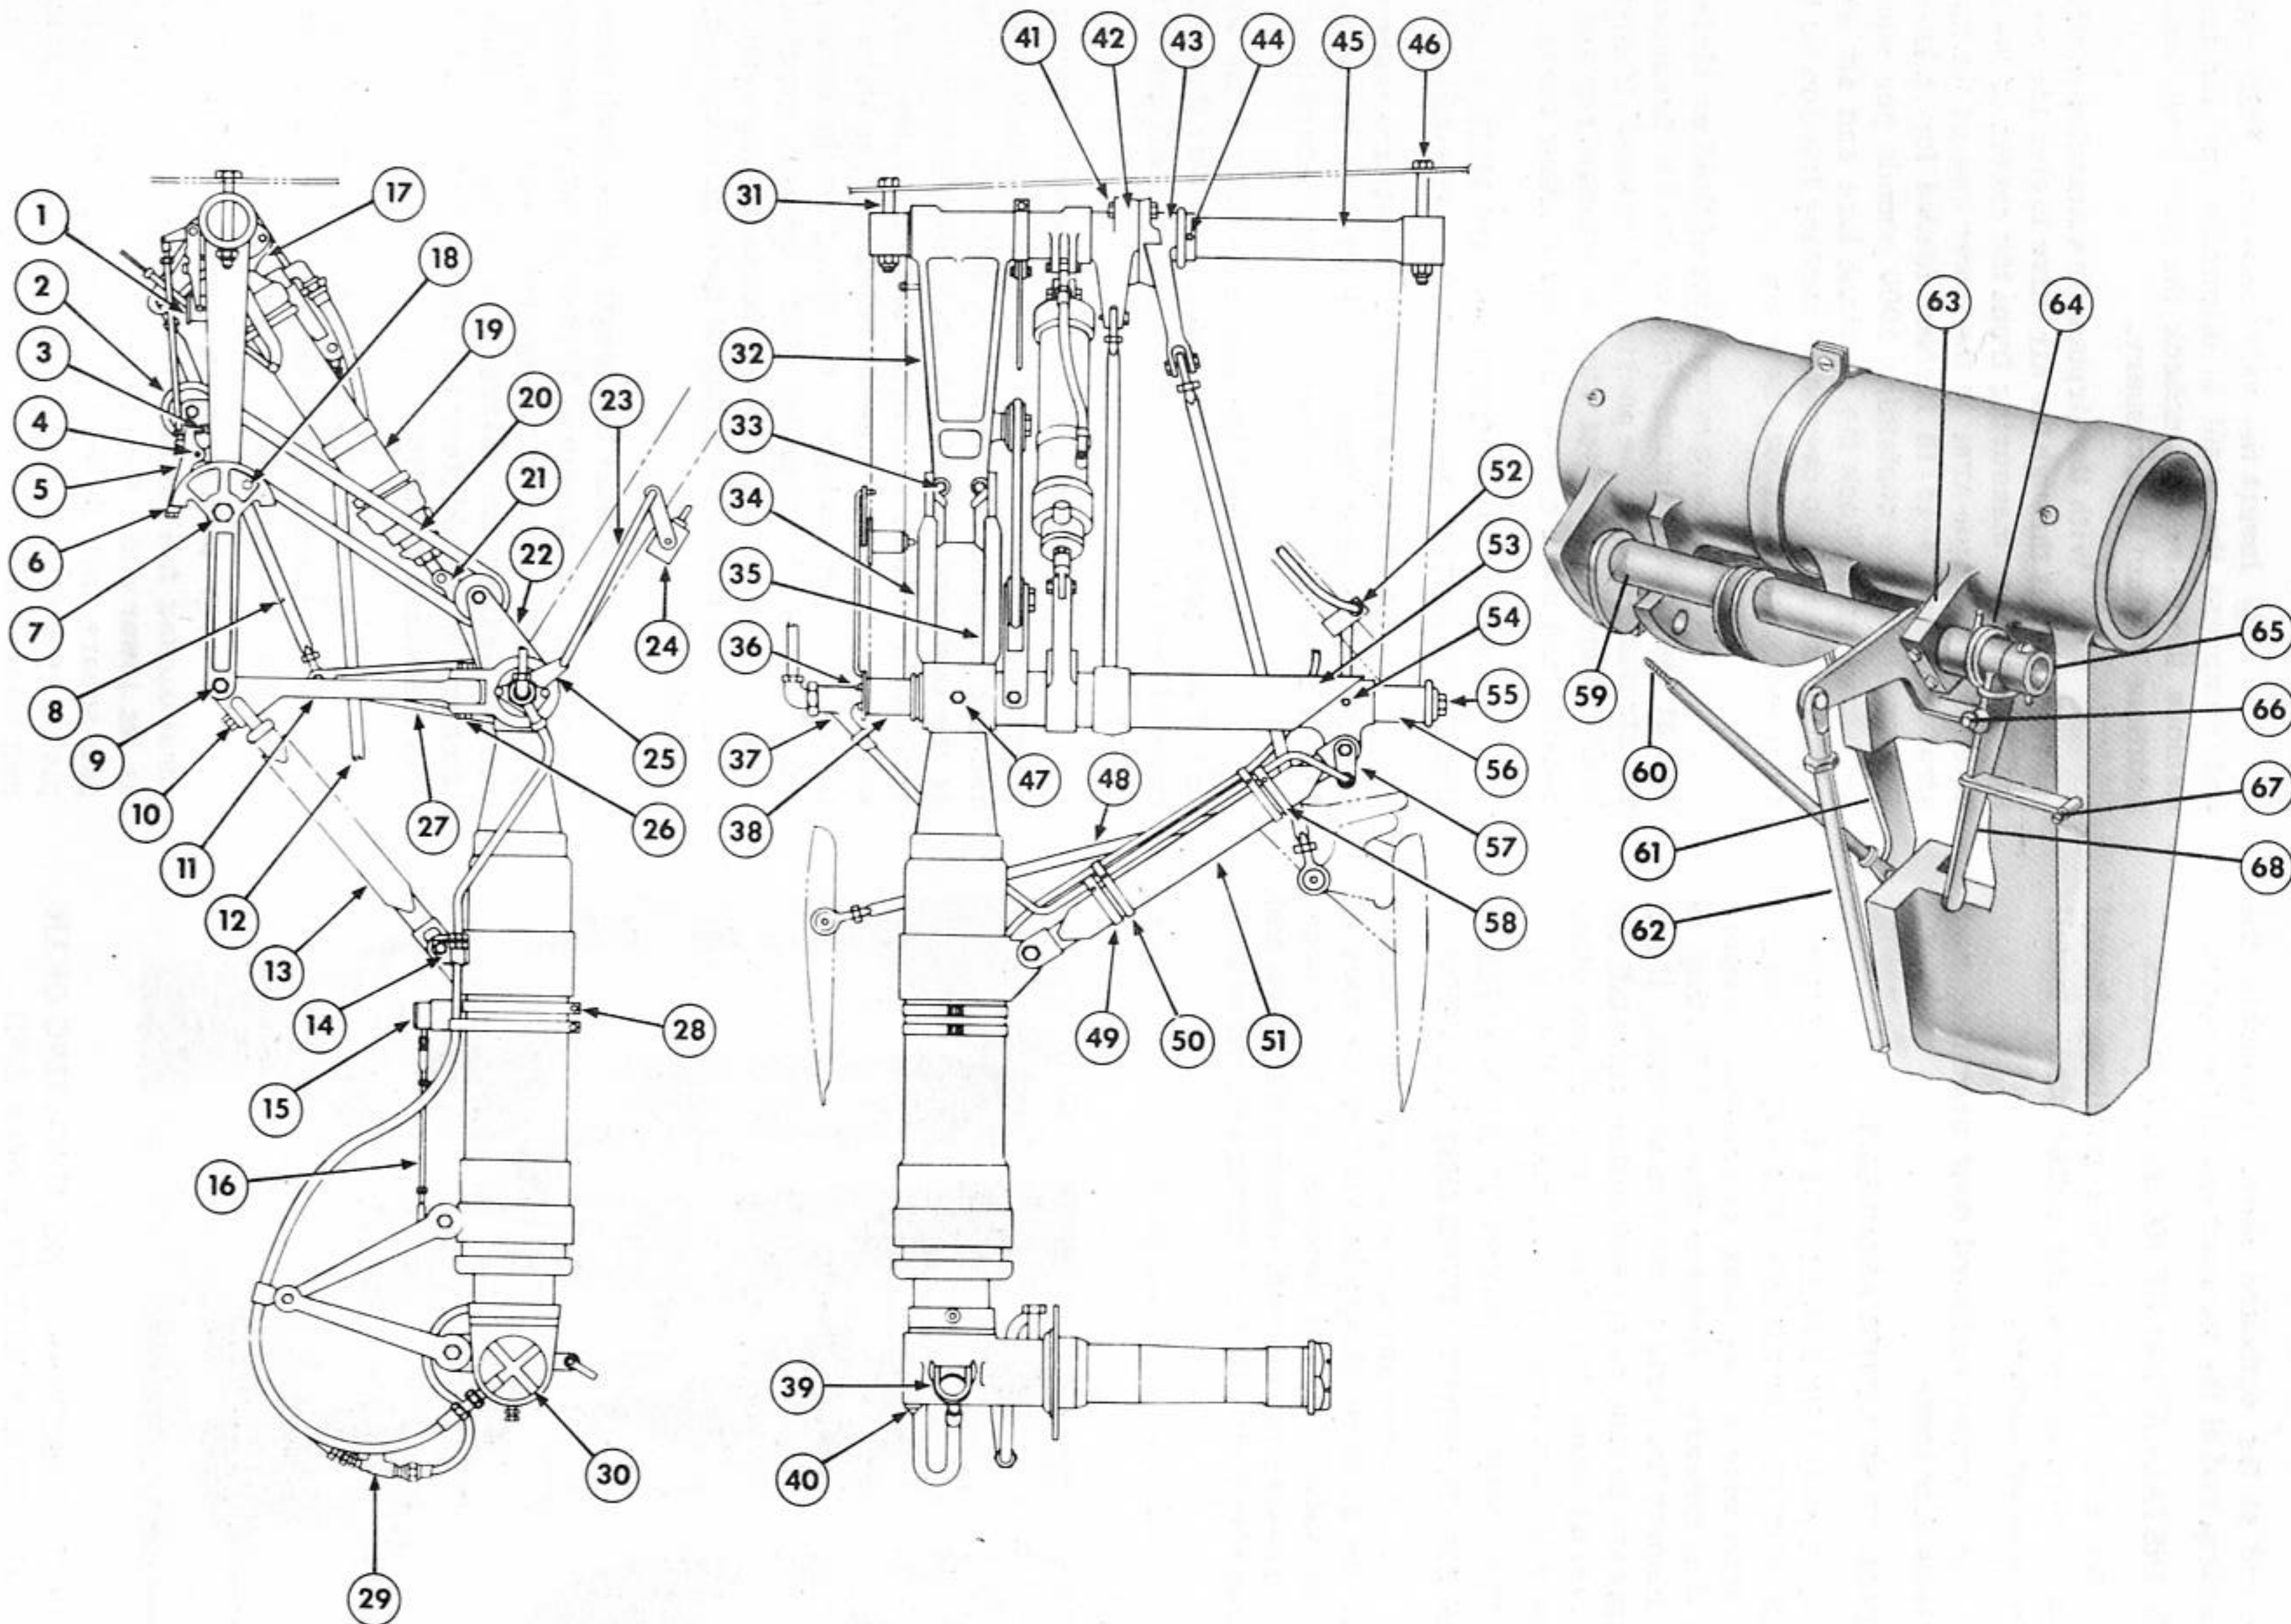

Figure 78 - MAIN ALIGHTING GEAR ASSEMBLY AND INSTALLATION
(7) INSTALLATION OF MAIN ALIGHTING GEAR. (See figure 78.)
(k) Install the bolt that attaches the retracting linkage to the line brake (11) and (13) (figure 78) of the gear.
(3) TEST AND ADJUSTMENT OF MAIN ALIGHTING GEAR AFTER INSTALLATION. (See figure 78.)
LEGEND FOR FIGURE 78